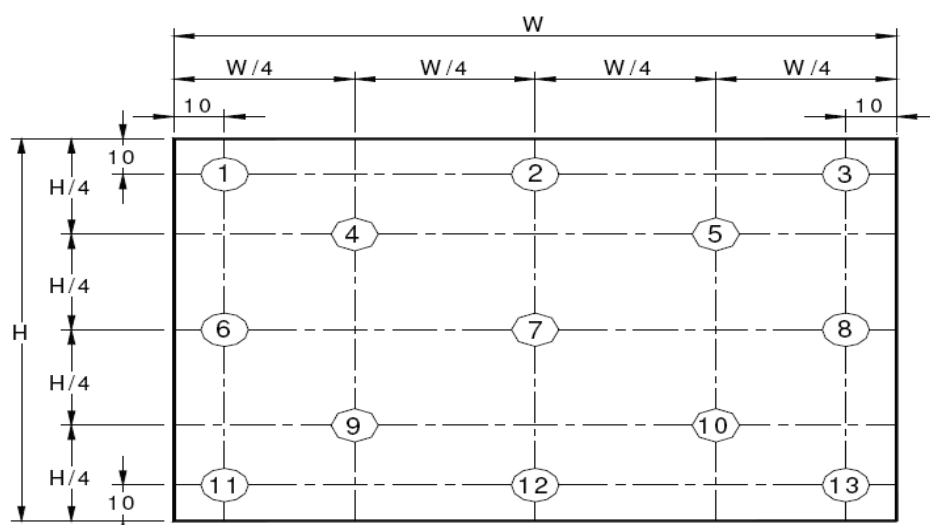

Figure 9. Uniformity Measurement Locations (13 points)
<p>Notes :</p> <ol style="list-style-type: none">Viewing angle is the angle at which the contrast ratio is greater than 10. The viewing angles are determined for the horizontal or 3, 9 o'clock direction and the vertical or 6, 12 o'clock direction with respect to the optical axis which is normal to the LCD surface (see Figure 7).Contrast measurements shall be made at viewing angle of $\Theta = 0$ and at the center of the LCD surface. Luminance shall be measured with all pixels in the view field set first to white, then to the dark (black) state . (see Figure 7) Luminance Contrast Ratio (CR) is defined mathematically.$CR = \frac{\text{Luminance when displaying a white raster}}{\text{Luminance when displaying a black raster}}$Center Luminance of white is defined as luminance values of 5 point average across the LCD surface. Luminance shall be measured with all pixels in the view field set first to white. This measurement shall be taken at the locations shown in Figure 8 for a total of the measurements per display.The White luminance uniformity on LCD surface is then expressed as : $\Delta Y = \text{Minimum Luminance of 5(or 13) points} / \text{Maximum Luminance of 5(or 13) points.}$(see Figure 8 and Figure 9).The color chromaticity coordinates specified in Table 5 shall be calculated from the spectral data measured with all pixels first in red, green, blue and white. Measurements shall be made at the center of the panel.The electro-optical response time measurements shall be made as Figure 10 by switching the “data” input signal ON and OFF. The times needed for the luminance to change from 10% to 90% is T_r, and 90% to 10% is T_f.Cross-Talk of one area of the LCD surface by another shall be measured by comparing the luminance (Y_A) of a 25mm diameter area, with all display pixels set to a gray level, to the luminance (Y_B) of that same area when any adjacent area is driven dark. (See Figure 11).
The White luminance uniformity on LCD surface is then expressed as : $\Delta Y5$ = Minimum Luminance of five points / Maximum Luminance of five points (see Figure 8) , $\Delta Y13$ = Minimum Luminance of 13 points /Maximum Luminance of 13 points (see Figure 9).